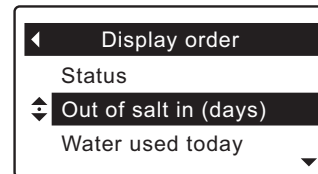

FIG. 70
6. Press the SELECT (○) button. Arrows will appear next to the item (See Figure 70).